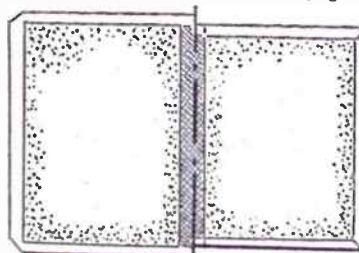

FIG. 4
The watch holder is made from two side pieces cut from $\frac{1}{4}$ in. ply and mounted on two lengths of $\frac{1}{4}$ in. diameter dowel—Fig. 4. Make the dowels a push fit in the holes drilled in the ply sides and also glue in place. The whole fitting simply glues to the top of the base at an angle, as shown in the heading sketch. The watch is normally suspended over the two dowels with the face towards the star.
Diagram Fig. 4 shows how the covers are glued to the cloth, one side being depicted with the overlapping edges of the material folded over, as a guide. Decoration to the covers can be carried out as the reader wishes, or just left plain as preferred. One simple method is depicted in the finished view of the album, a gummed label being stuck on, with suitable wording, and plain lines drawn in indian ink. (401)